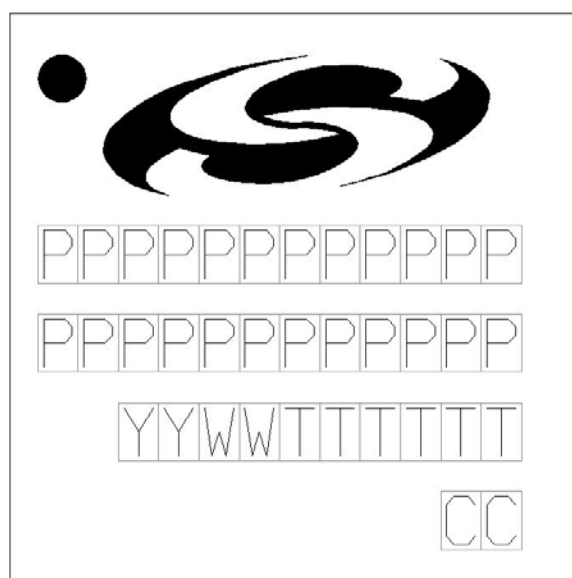

Figure 8.5. ZGM230S Top Marking
- Updated Figure 8.5 ZGM230S Top Marking on page 44